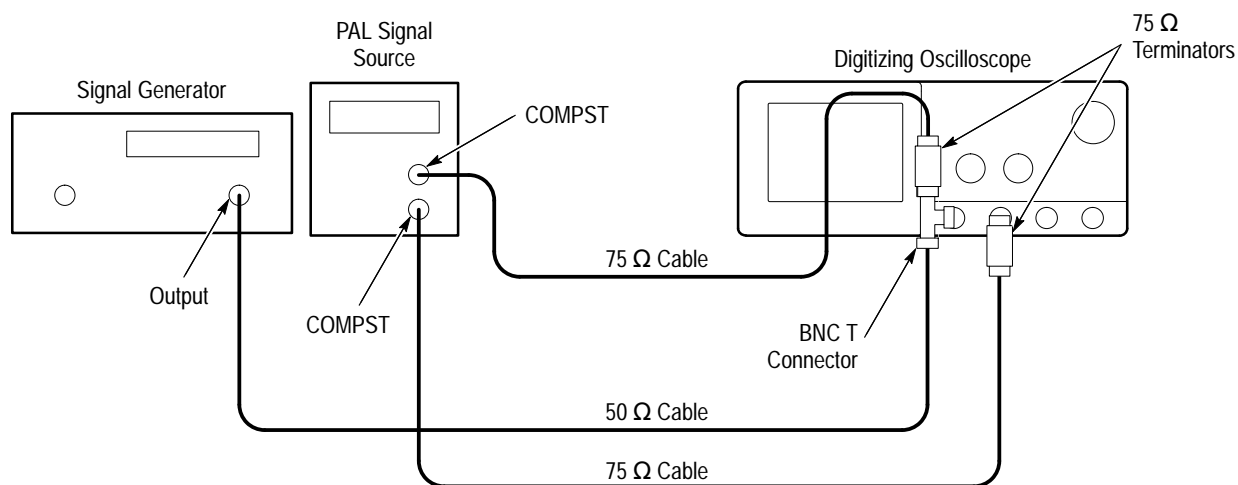

Figure 1–32: Subsequent 60 Hz Rejection Test Hookup
- Connect another composite signal connector of the PAL signal source (labeled **COMPST** on the TSG 121) through a 75 Ω cable and a 75 Ω terminator to the CH2 input. See Figure 1–32.
- **CONFIRM** that the **TRIG'D** LED stays lit and that the waveform on screen is stable. In other words, be sure the waveform does not move horizontally or vertically. Also, confirm that the waveform on the screen has one positive pulse and a number of negative pulses. See Figure 1–33.